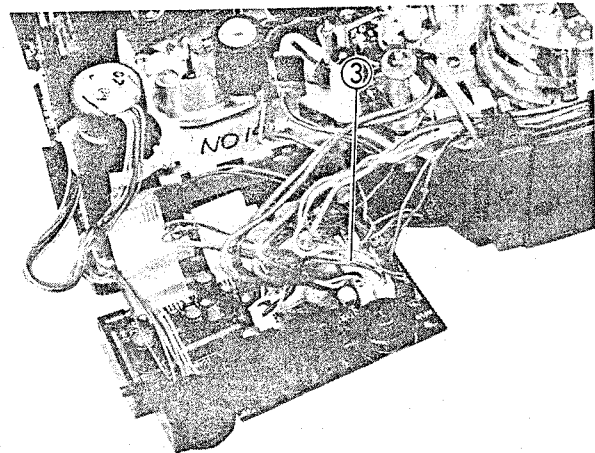

Fig. 2-77 Mechanism State Switch Removal
Mechanism State Switch Removal (Figs. 2-77, 2-78, 2-79)
3. Disconnect connector CN117. (See Fig. 2-77)